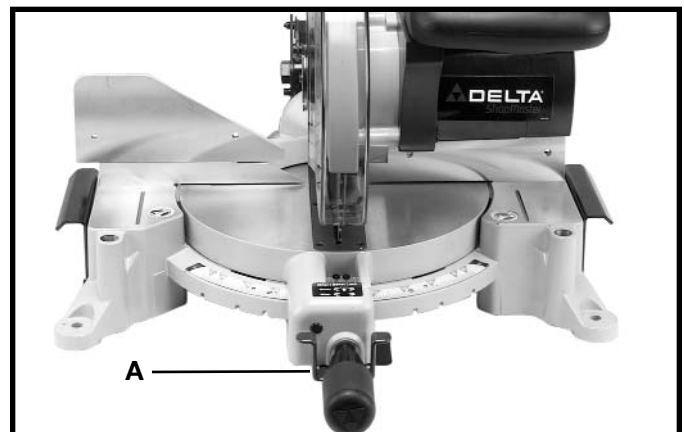

Fig. 4
2. Rotate table to the left until index stop engages with the 90 degree positive stop (Fig. 4). Tighten table lock handle (A).